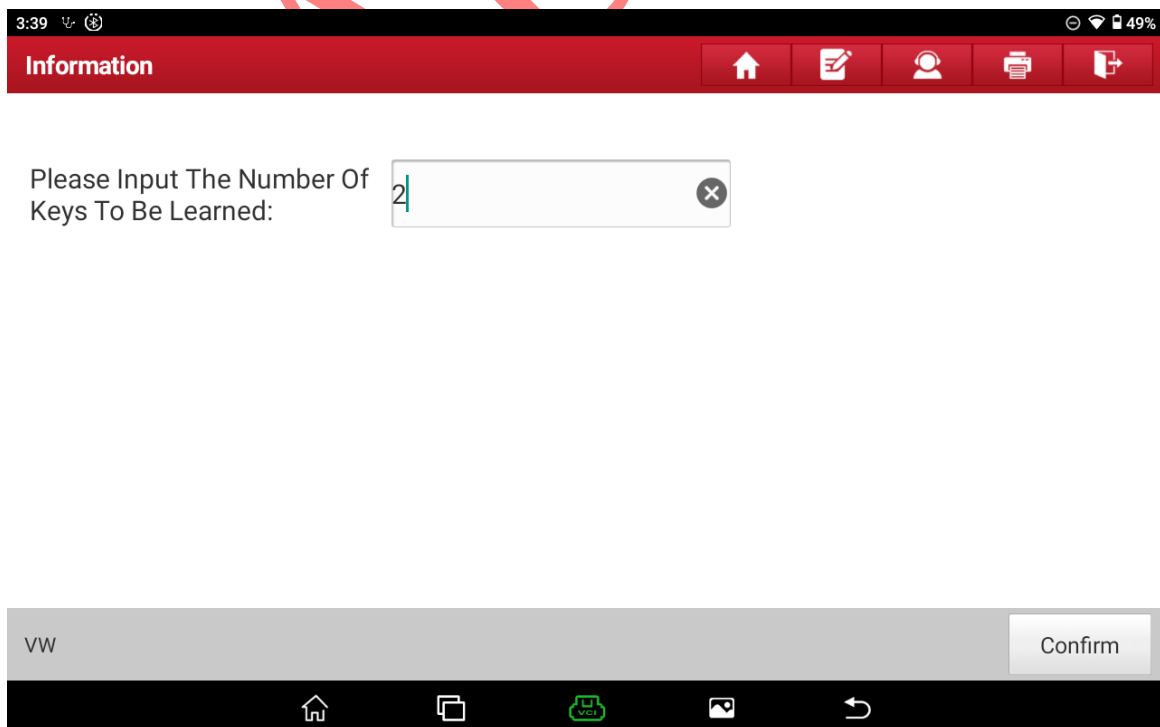

Figure 29
28. Enter the number of keys to be learned and select OK, as shown in Figure 29.